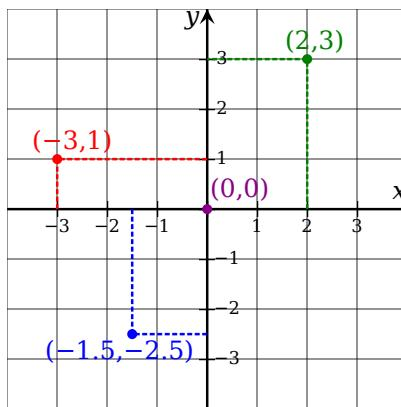

Figure 19.1. A Cartesian coordinate system in the 2D plane
-axis and the  $y$ -axis. We assign  $(0, 0)$  to the point of intersection, which we call *the origin*. Then we decide on the positive directions and units for each axis and the unit. We will use coordinates  $(x, y)$  to specify a point located  $x$ -many units in the positive  $x$ -direction and  $y$ -many units in the positive  $y$ -direction away from the origin, respectively. If we draw the axis-parallel lines with *integral  $x$*  coordinate and lines with integral  $y$  coordinate, we obtain a visualization similar to that in Figure 19.1.